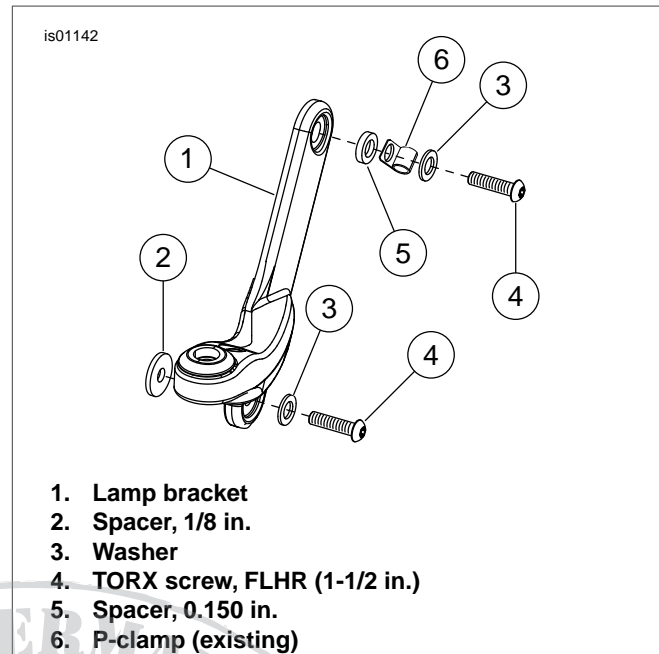

Figure 8. Lamp Bracket Assembly (FLHRS) Without Windshield
1. See Figure 8. Hold left side lamp bracket (1) in mounting position on motorcycle. Install 1/8 in. spacer (2) washer (3), 1-1/4 in. TORX screw (4). Pivot lamp bracket upward. Install 0.150 in. spacer (5) into upper lamp bracket recess. Install clutch cable P-clamp (6), washer (3), and 1-1/2 in. TORX screw (4). Tighten screws to 12-16 ft-lbs (16-22 Nm).